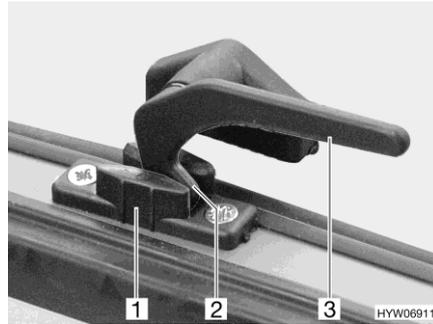

Fig. 65 Catch lever ("continuous ventilation" position)
- "Continuous ventilation" (Fig. 65)
- Turn all catch levers (Fig. 65,3) a quarter turn towards the centre of the window.
- Return all catch levers to their initial position. The locking catch (Fig. 65,2) has to be moved into the recess of the window catch (Fig. 65,1).